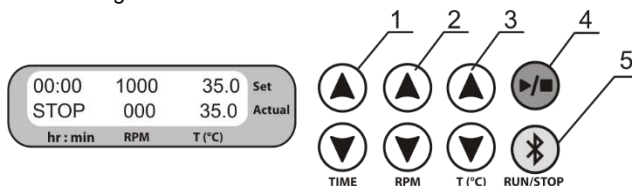

Figure 3. Control Panel
- 5.2.1. Simultaneously press and hold the ►/■ **RUN/STOP** and ✂ **RUN/STOP** keys (fig. 3/4 and 3/5) to view the programming version (PV-XX), last four digits of MAC address (MAC-XXXX) on the top line. If the unit is paired with a PC, display shows the Bluetooth® symbol ✂ in the top right corner and the 14-digit serial ID number of the unit in the bottom line.
- 5.5.1. **Setting time (TIME).** Using the ▲ and ▼ **TIME** keys (Fig. 3/1) set the required working time interval in hours and minutes (increment 1 min).
- 5.5.2. **Setting speed (RPM).** Using the ▲ and ▼ **RPM** keys (Fig. 3/2) set the required speed (increment 10 rpm).
- 5.5.3. **Setting temperature (T, °C).** Using the ▲ and ▼ **T, °C** keys (Fig. 3/3) set the necessary temperature (increment 0.1°C).
5.6.2. Press the ►/■ **RUN/STOP** key (fig. 3/4). The platform will start rotating and the timer indicator will start counting up the time interval (with 1 min precision).